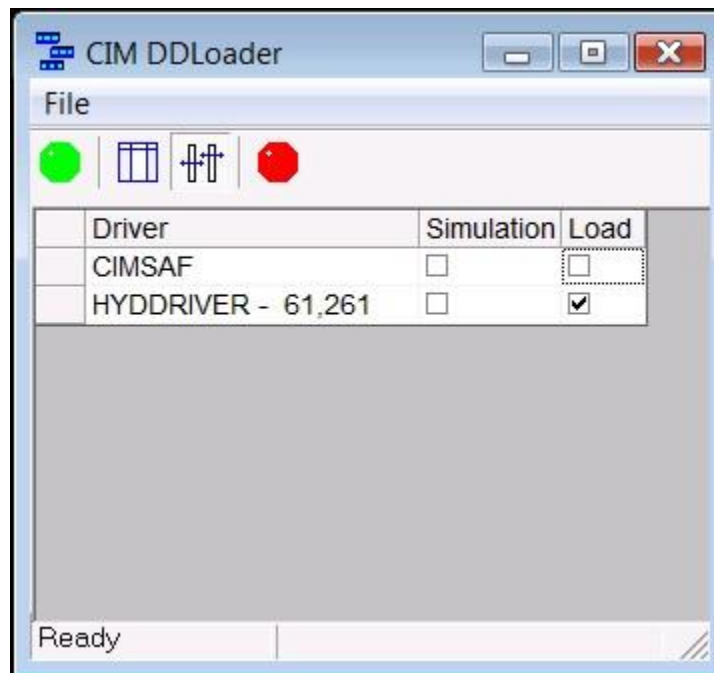

Figure 156: CIM DDLoader
1. Select the **Loader** icon of the workstation where the hydraulic device driver is installed. The CIM DDLoader window is displayed, as shown in Figure 156: CIM DDLoader.